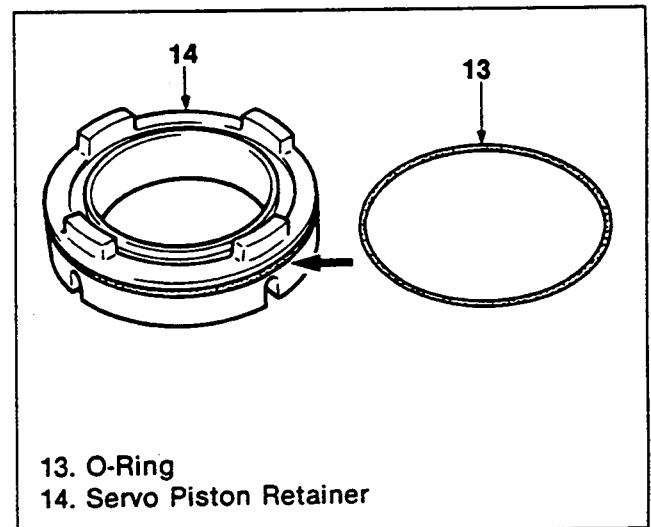

Figure 209. O-Ring Removal
7. Remove the O-ring from the servo piston retainer (figure 209).